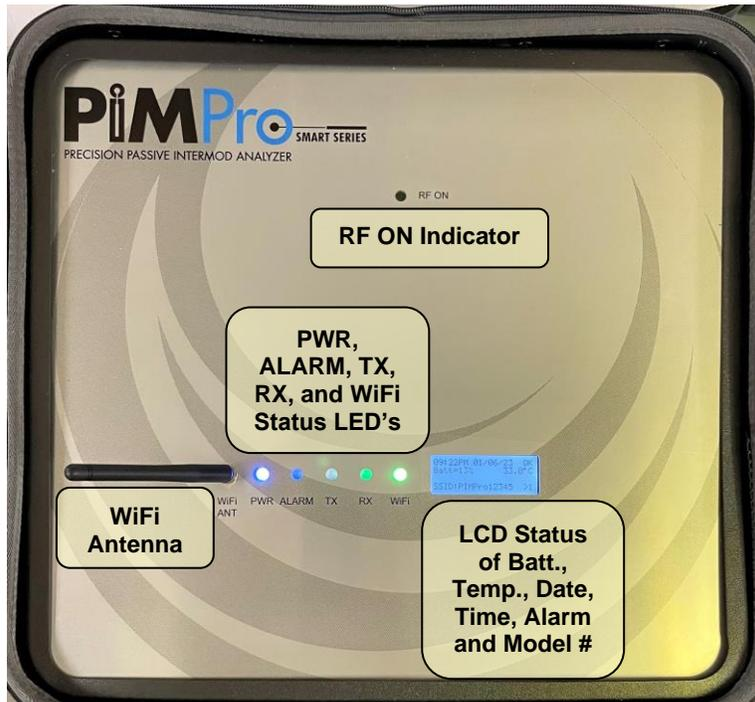
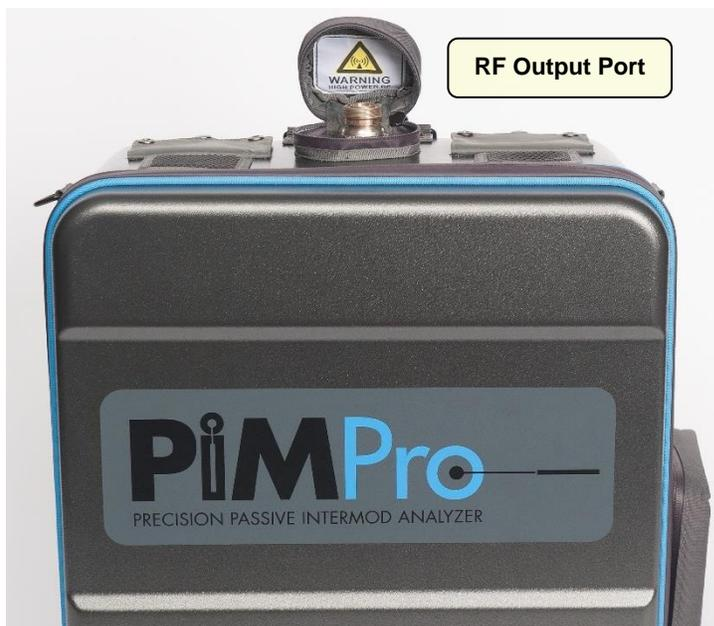
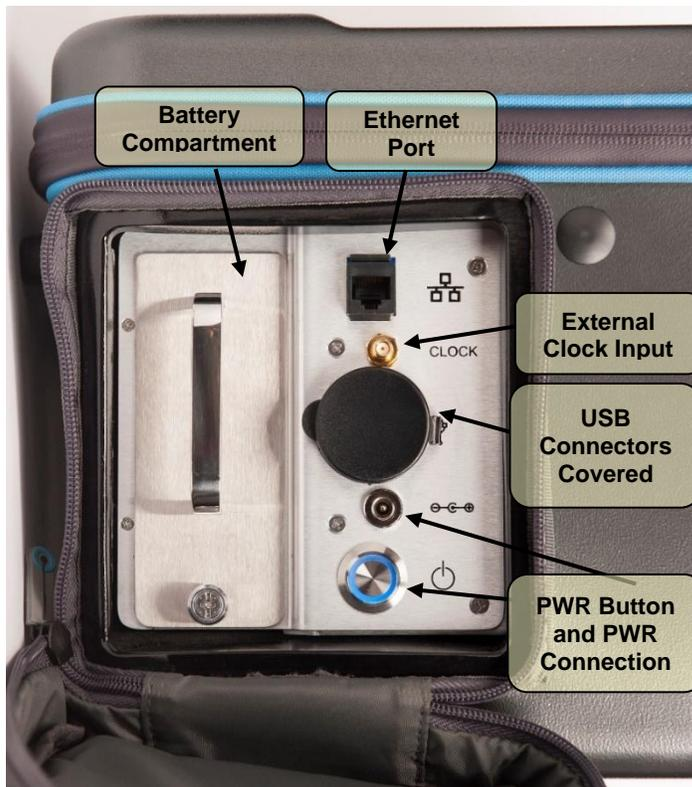

Figure 1 - View of the CCI PiMPro Smart Series PIM Analyzer Main Panel
Figure 2 – PiMPro Smart Series RF Output Port
Figure 3 – Power, Ethernet, Battery, USB and Other Connections Access
Figure 1 shows an overall view of the PiMPro Smart Series PIM Analyzer with locations of the Status LED's (PWR, ALARM, TX, RX, WiFi), the WiFi Antenna and the small LCD for unit status (Date, Time, Battery Charge, PA (Power Amplifier) Temperature, plus any alarm messages will be displayed here). **Figure 2** shows the Location of the RF Output port. **Figure 3** shows the DC Input port, On/Off Switch, USB Connector location, Ethernet (RJ45) port, External Clock Input port, and the battery compartment.
An “RF ON” (Red LED) indicator is located near the top of the PiMPro Smart Series PIM Analyzer as shown in **Figure 1** above.
There are five (5) Status LEDs located on the main panel of the PiMPro Smart Series PIM Analyzer as shown in **Figure 1**. They include the following:
There is one removable WiFi antenna located on the main panel of the PiMPro Smart Series PIM Analyzer as shown in **Figure 1**. As this is integrated within the PiMPro Smart Series no external router is required.
The status LCD Display on the Smart Series Main Panel shows the basic status of the PiMPro Smart Series PIM Analyzer as shown in **Figure 1**. It displays the current date, time, battery charge status and temperature plus any alarm conditions of the unit.
The RF Output port or Test port shown in **Figure 2** is a DIN 7/16-Female connector located at the top of the instrument. An option for a 4.3-10 connector will be offered as well. *Please note that a “Connector Saver” is placed on the RF Output port to protect the output connector.*
The ON/OFF switch is located on the right-hand side of the PiMPro Smart Series PIM Analyzer. See **Figure 3** for a view of the ON/OFF switch.
The 28VDC Input from the AC Adapter is located on the right-hand side of the PiMPro Smart Series PIM Analyzer between the ON/OFF Power Switch and the External Clock Input when facing the PiMPro Smart Series PIM Analyzer. See **Figure 3** for location of the DC Input from the AC Adapter.
An external clock Input (10 MHz) can be found between the DC Input and the Ethernet (RJ-45) connector on the right-hand side of the PiMPro Smart Series PIM Analyzer as can be seen in **Figure 3**. This is utilized to synchronize the PiMPro time-base to the same as a spectrum analyzer or a signal generator and is only utilized during the factory Calibration process.
An Ethernet (RJ-45) port connection is utilized for computer control of the PiMPro Smart Series and factory calibration. See **figure 3** for location of the RJ-45 Ethernet port.
The "WARNING HIGH POWER RF"  Label is placed inside the "pocket" (see in **figure 2**) that is unzipped for access of the output port on the PiMPro Smart Series PIM Analyzer backpack. This label is utilized to warn the user that RF Output Power at this port (if unterminated) is at a "High" Level (up to +46dBm (40 Watts)) when the "TX ON" RED LED is ON.